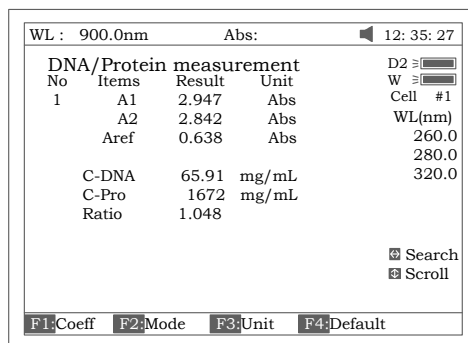

Fig 65
5. Pull the sample cuvette into Main Light Path, press **【START】** to test the sample. The test result will be displayed on the screen (Fig 65).